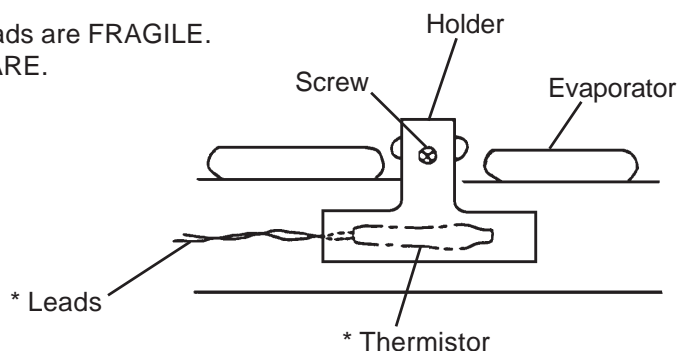

Fig. 32
- 5) Install the new thermistor in the reverse order of the removal procedure, by using a sealant (High-thermal Conduct Type). See Fig. 32.